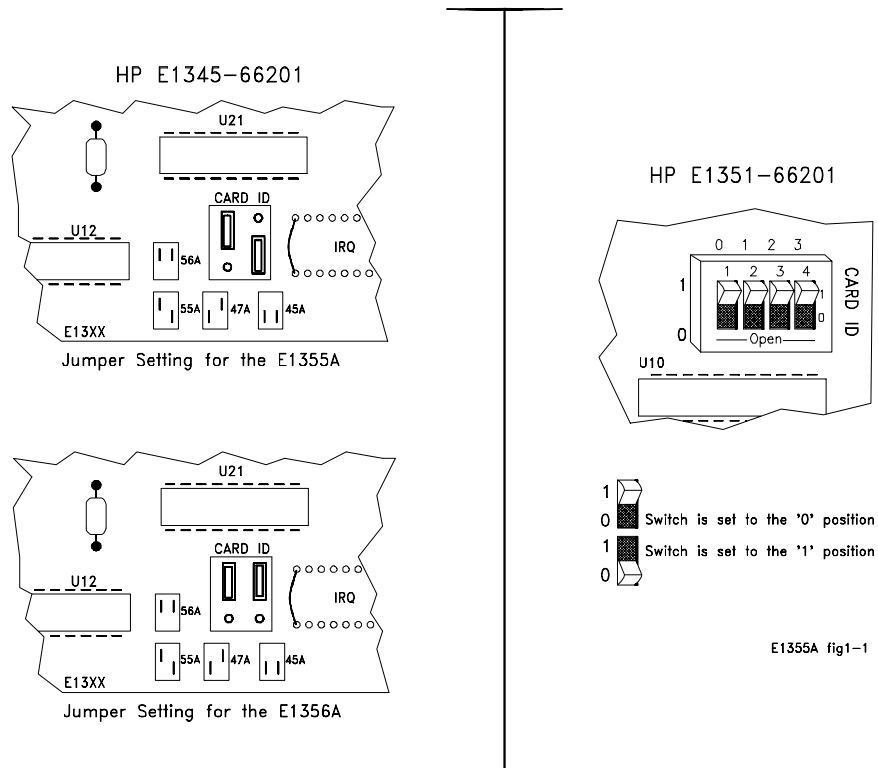

Figure 1-1. Checking the Card ID Jumper/Switch
The card ID jumpers and card ID switch (Figure 1-1) indicates which terminal assembly is used. Since the HP E1345-66201 and HP E1351-66201 assemblies are used with a variety of terminal modules, the ID jumpers or ID switch may need to be changed. To reduce setup time and avoid configuration errors, check the jumper or switch setting to make sure they match the terminal module used.
When the relay strain gage multiplexers are shipped from the factory, the card ID jumpers are set according to the terminal module (E1355A/E1356A) shipped with them (Figure 1-1). The system is able to identify the multiplexer with or without the terminal module attached.
When the FET strain gage multiplexers are shipped from the factory, the card ID switches are set to the "OPEN" (0) position (Figure 1-1). The terminal module is identified when the module is plugged onto the component assembly and when the mainframe is turned on.